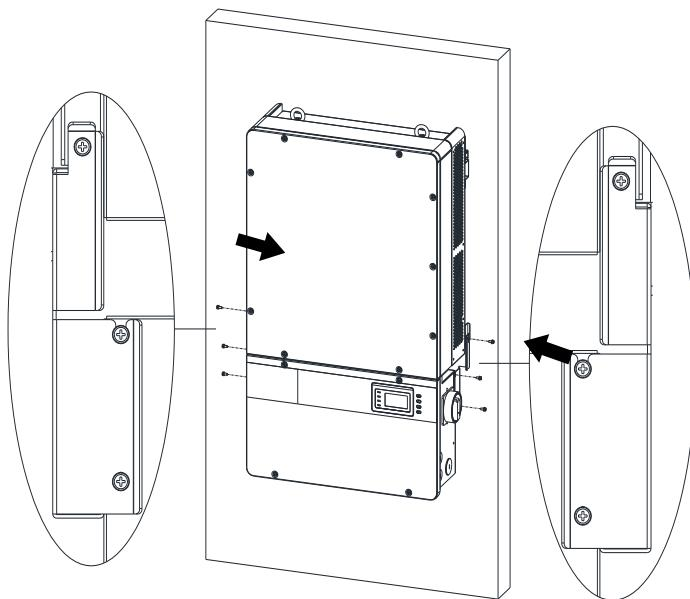

Figure 2.12 - Secure the Main Section and Wiring Box to the Bracket
- (5) Attach the main section and the wiring box to the mounting bracket with the **M5x10 bolts** (6 pcs). (see Figure 2.12)